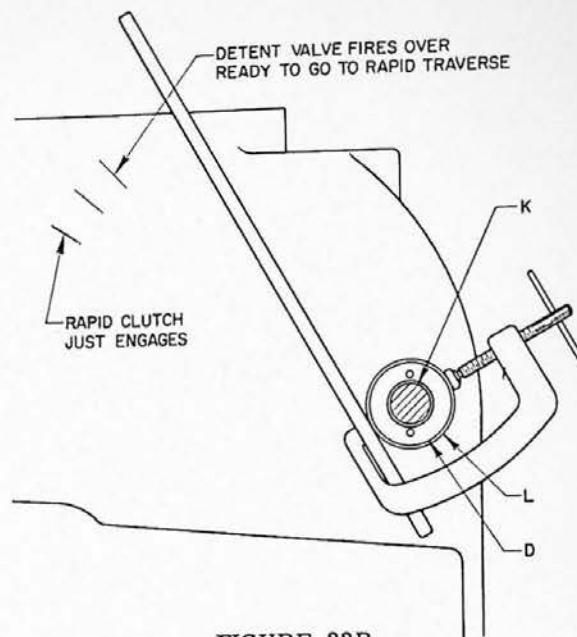

FIGURE 22B
2. Clamp a steel bar 1/4 inch by 3/4 inch by 12 inches onto coupling sleeve L so that it forms an angle of 30° counter-clockwise from a vertical position. (See Figure 22B).